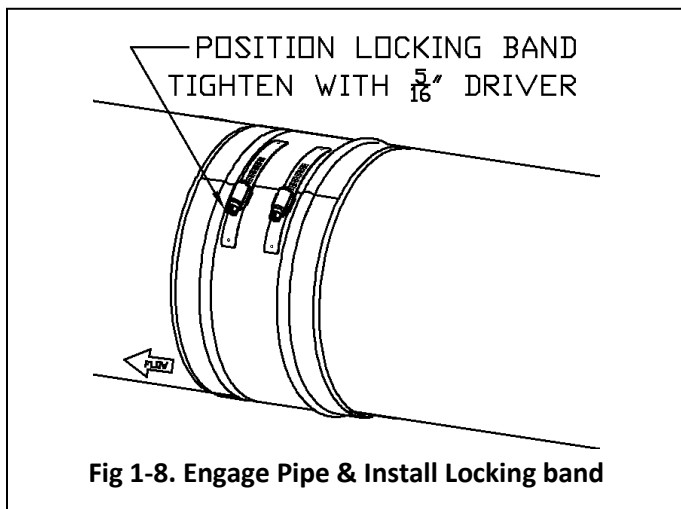

Fig 1-8. Engage Pipe & Install Locking band
5. Position the Locking Band (LB) around the joint and ensure grooves in LB are seated in the Pipe grooves. (See Fig 1-8)